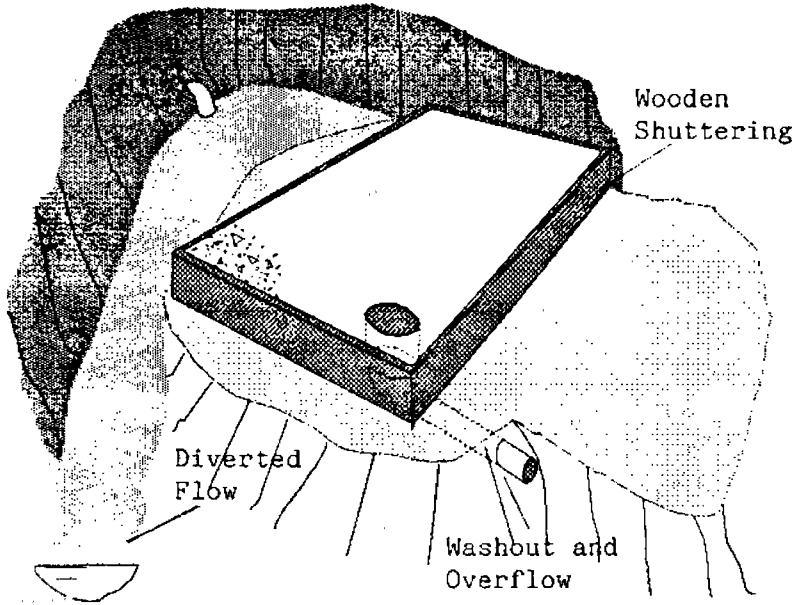

Figure 6. Drainage channel
- Dig a temporary drainage channel that will take the water away from the spring during construction, as shown in Figure 6.
- Mark the edges of the base with wooden shuttering so that the base is close to the eye of the spring, extends at least one metre forward from the eye and across its full width (see Figure 6).